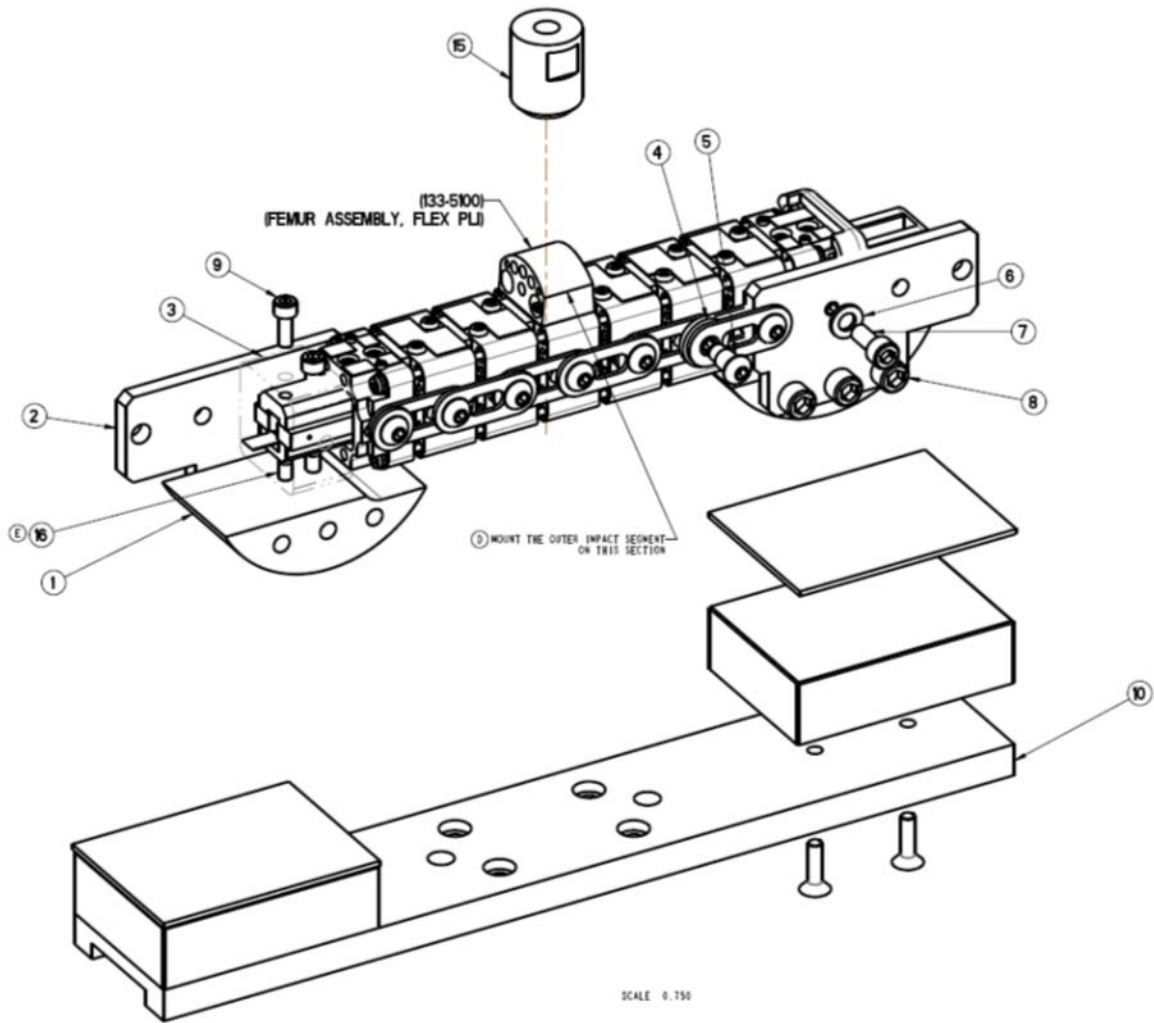
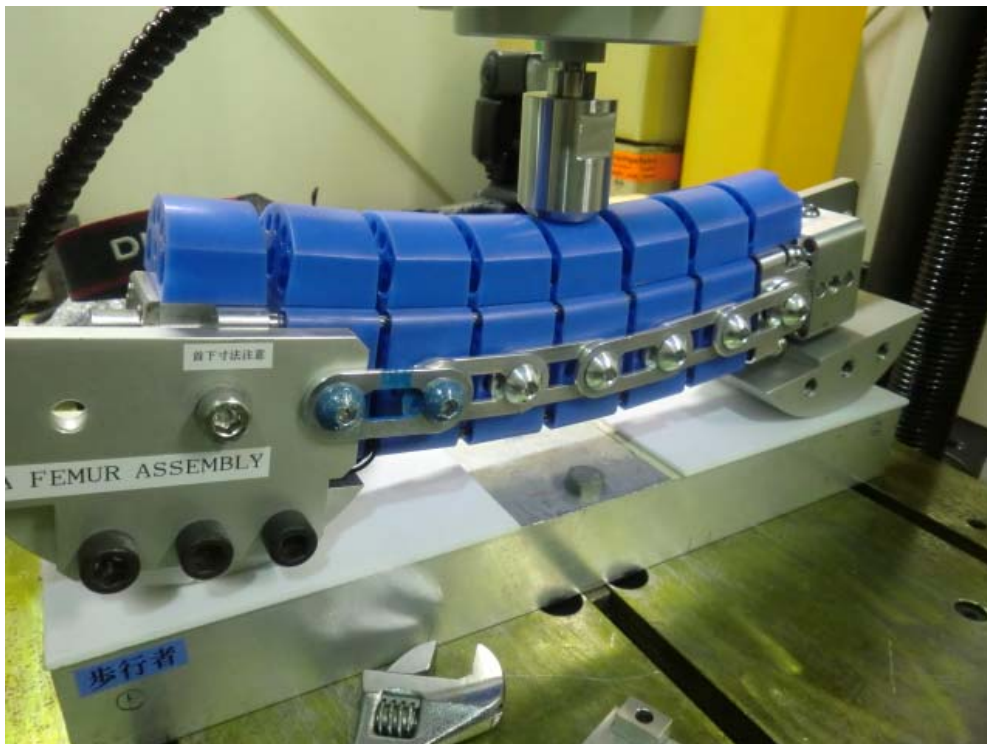

Figure 79 . Bone and knee fixture 133-8120 for static assembly bending test femur shown
Figure 81 . Bone Assembly Fixture (femur shown under bending)
Assemble the bone to the 133-8120 fixture; see drawing Figure 79 for details. Place the assembled fixture over the Teflon sheets see Figure 81. Do not tighten the two cap head screws item 7 in Figure 79 at the end segments of the assembly to allow free rotation.